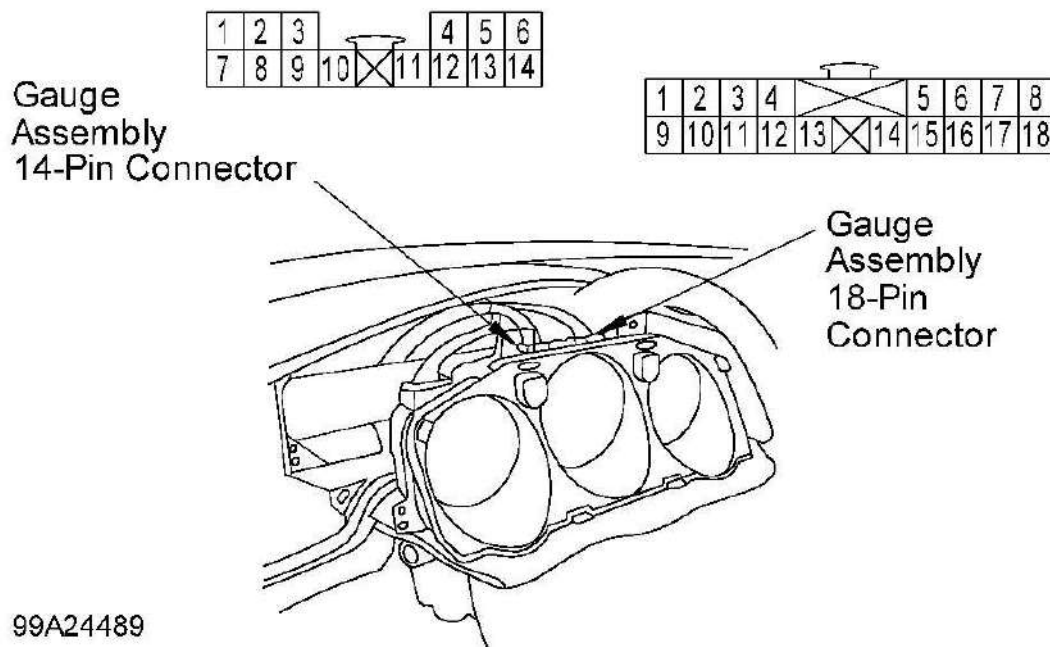
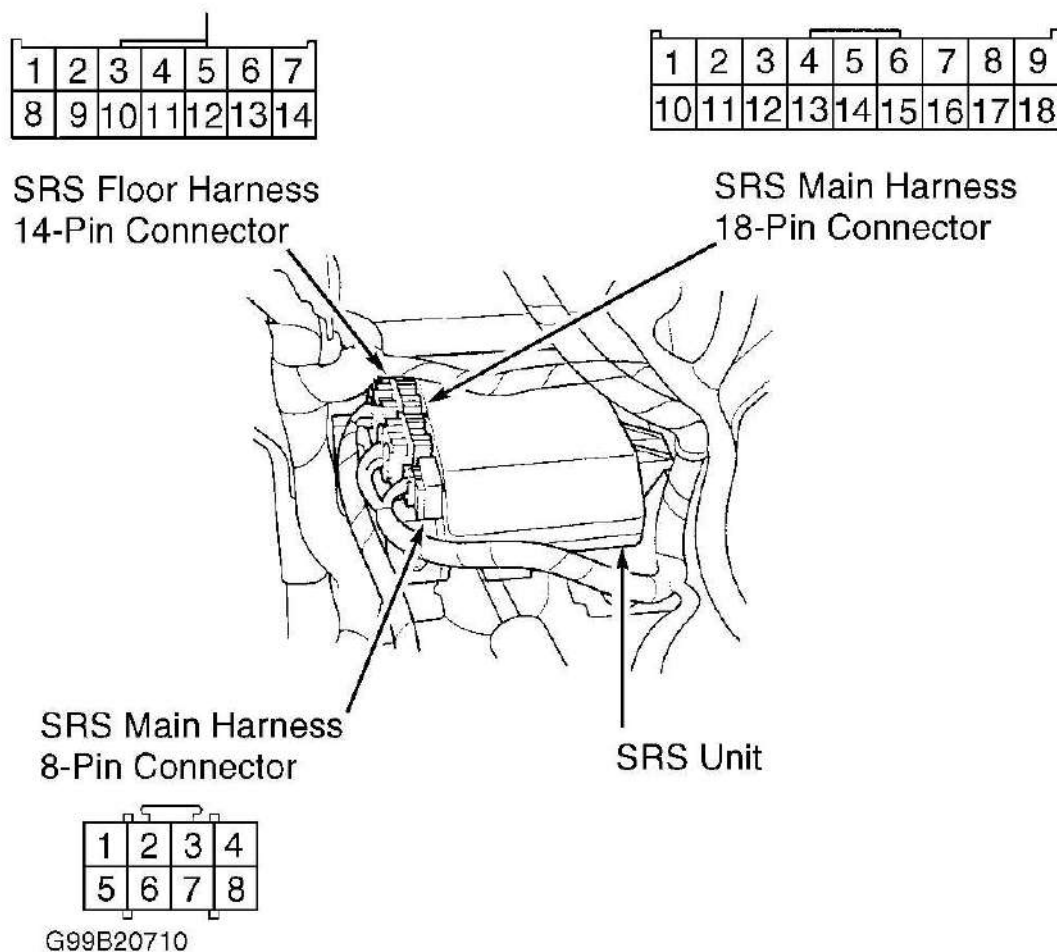
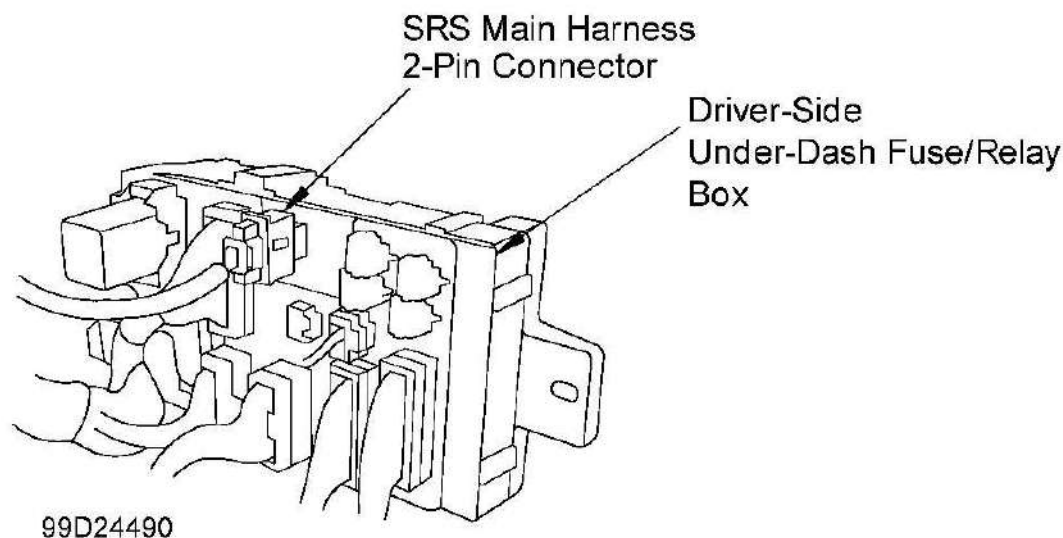
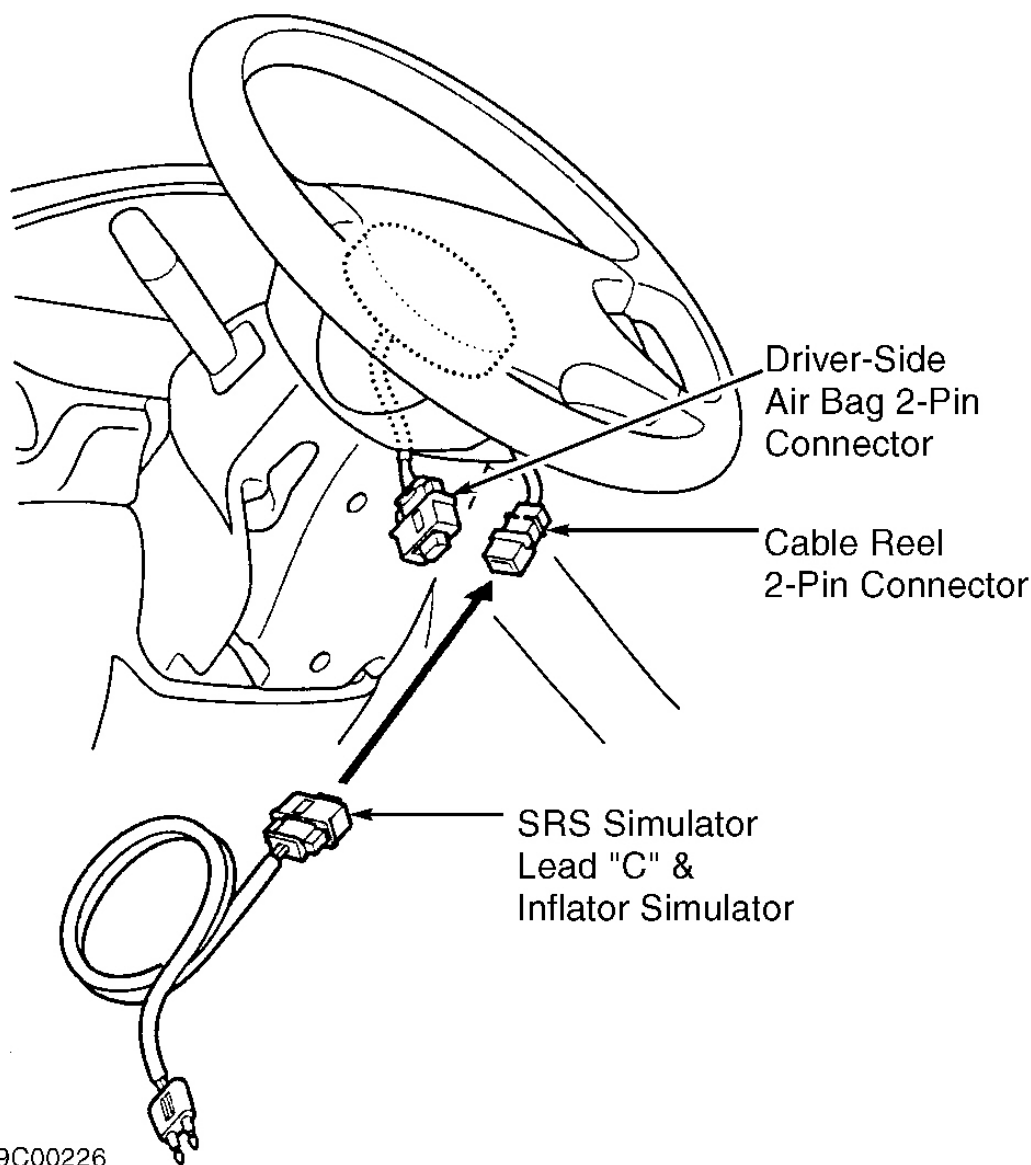

Fig. 21: Identifying Gauge Assembly Connector Terminals
Fig. 22: Identifying SRS Unit Connector Terminals
Fig. 23: Locating SRS Main Harness 2-pin Connector
Fig. 24: Connecting SRS Inflator Simulator & Lead To Cable Reel
2. Turn ignition off. Access gauge assembly and disconnect gauge assembly 14-pin connector. See **Fig. 21** . Measure resistance between ground and gauge assembly 14-pin connector terminals No. 9 and 10 (Black wire) individually. If resistance is 0-1.0 ohms, go to next step. If resistance is not 0-1.0 ohms, check for open in black wire or faulty ground terminal. See **WIRING DIAGRAMS** . If ground terminal is okay, replace appropriate wire harness.
3. Disconnect gauge assembly 18-pin connector. See **Fig. 21** . Connect voltmeter between ground and gauge
5. Turn ignition off. Check fuse No. 9 (10-amp) in under-dash fuse-relay box. If fuse is blown, go to step 7. If fuse is okay, Access gauge assembly and disconnect gauge assembly 14-pin connector. See **Fig. 21**. Connect voltmeter between ground and gauge assembly 14-pin connector terminal No. 7 (Yellow wire). Turn ignition on add observe voltmeter and go t next step.
4. Replace fuse No. 2 (10-amp) in under-dash fuse-relay box. Disconnect SRS main harness 2-pin connector from driver-side under-dash fuse-relay box. See **Fig. 23** . Turn ignition on, wait 30 seconds, then turn ignition off. Check fuse No. 2 (10-amp) in under-dash fuse-relay box. If fuse is okay, replace SRS main harness. If fuse is blown, check for short to ground in driver-side under-dash fuse-relay box fuse No. 2 line. Repair or replace fuse-relay box as necessary.
6. Turn ignition off. Disconnect SRS main harness 2-pin connector from driver-side under-dash fuse-relay box. See **Fig. 23** . Disconnect SRS unit 8-pin connector. Measure resistance of Black-White or Green wire between SRS unit 18-pin connector terminal No. 4 and SRS main harness 2-pin connector. See **Fig. 22** . See **WIRING DIAGRAMS** . If resistance is 0-1.0 ohm, check for open in Black-White or Green wire and connections. If connections are okay, replace driver-side under-dash fuse-relay box. If resistance is not 0-1.0ohm, replace SRS main harness.
8. Turn ignition off and remove jumper wire. Check fuse No. 2 (10-amp). If fuse is blown, go to next step. If fuse is okay, turn ignition off. Disconnect instrument panel wire harness 18-pin connector from gauge assembly. See **Fig. 21** . Measure resistance of Blue wire between instrument panel wire harness 18-pin connector terminal No. 17 and SRS main harness 8-pin connector terminal No. 5. See **Fig. 21** & **Fig. 22** . If resistance is less than one ohm, replace gauge assembly. If resistance is one ohm or more, replace SRS main wire harness.
2. Turn ignition off. Disconnect negative battery cable, and wait at least 3 minutes. Disconnect driver-side air bag connector from cable reel connector. See **Fig. 24** . DO NOT disconnect passenger-side air bag connector. Connect SRS Simulator Lead "C" (07TAZ-SZ5011A) and SRS Inflator Simulator (07SAZ-TB4011A) to cable reel connector. Reconnect negative battery cable. Erase DTC memory. Retrieve DTCs. If DTC 1-1 is indicated, go to next step. If DTC 1-1 is not indicated, replace driver-side air bag assembly. See **DRIVER-SIDE AIR BAG** under REMOVAL & INSTALLATION.
pin connector from SRS unit. See **Fig. 22** . DO NOT disconnect SRS simulator lead "C" and SRS inflator simulator from SRS main harness connector. Check resistance between SRS main harness 18-pin connector terminals No. 7 (Green wire) and No. 16 (Brown wire). If resistance is 2-3 ohms, go to next step. If resistance is not 2-3 ohms, replace SRS main harness.
2. Turn ignition off. Disconnect negative battery cable, and wait at least 3 minutes. Disconnect driver-side air bag connector from cable reel connector. See **Fig. 24** . Connect SRS Simulator Lead "C" (07TAZ-SZ5011A) and SRS Inflator Simulator (07SAZ-TB4011A) to cable reel connector. Reconnect negative battery cable. Erase DTC memory. Retrieve DTCs. If DTC 1-3 is indicated, go to next step. If DTC 1-3 is not indicated, replace driver-side air bag assembly. See **DRIVER-SIDE AIR BAG** under REMOVAL & INSTALLATION.
4. Disconnect negative battery cable. Wait at least 3 minutes. Disconnect passenger-side air bag 4-pin connector. See **Fig. 26** . Disconnect left and right seat belt tensioners. Disconnect SRS simulator lead "C" and SRS inflator simulator from SRS harness connector. See **Fig. 25** . Disconnect SRS main harness 18-pin connector from SRS unit. See **Fig. 22** . Check resistance between SRS main harness 18-pin connector terminals No. 7 and 16. If resistance is one megohm or more, replace SRS unit. See **SRS UNIT** under REMOVAL & INSTALLATION. If resistance is less than one megohm, replace SRS main harness.
2. Disconnect negative battery cable, and wait at least 3 minutes. Disconnect driver-side air bag connector from cable reel connector. See **Fig. 24** . DO NOT disconnect passenger-side air bag connector. Connect SRS Simulator Lead "C" (07TAZ-SZ5011A) and SRS Inflator Simulator (07SAZ-TB4011A) to cable reel connector. Reconnect negative battery cable. Erase DTC memory. Retrieve DTCs. See **DIAGNOSTIC TROUBLE CODE (DTC)** . If DTC 1-4 is indicated, go to next step. If DTC 1-4 is not indicated, replace
4. Disconnect negative battery cable. Wait at least 3 minutes. Disconnect passenger-side air bag 4-pin connector from SRS main harness connector. See **Fig. 26** . Disconnect left and right seat belt tensioners. Disconnect SRS main harness 18-pin connector from SRS unit. See **Fig. 22** . Reconnect negative battery cable. Connect a voltmeter between SRS main harness 18-pin connector terminal No. 7 and ground. Turn ignition on and measure voltage. Turn ignition off. Connect a voltmeter between SRS main harness 18-pin connector terminal No. 16 and ground. Turn ignition on and measure voltage. If voltages are 0.5 volt or less, replace SRS unit. See **SRS UNIT** under REMOVAL & INSTALLATION. If voltages are more than 0.5 volt, replace SRS main harness.
2. Disconnect negative battery cable, and wait at least 3 minutes. Disconnect driver-side air bag connector from cable reel connector. See **Fig. 24** . Connect SRS Simulator Lead "C" (07TAZ-SZ5011A) and SRS Inflator Simulator (07SAZ-TB4011A) to cable reel 2-pin connector. Reconnect negative battery cable. Erase DTC memory. Retrieve DTCs. If DTC 1-5 is indicated, go to next step. If DTC 1-5 is not indicated, replace driver-side air bag assembly. See **DRIVER-SIDE AIR BAG** under REMOVAL & INSTALLATION.
4. Disconnect negative battery cable. Wait at least 3 minutes. Disconnect passenger-side air bag 4-pin connector from SRS main harness connector. See **Fig. 26** . Disconnect left and right seat belt tensioners. Disconnect SRS main harness 18-pin connector from SRS unit. See **Fig. 22** . Check resistance between SRS main harness 18-pin connector terminal No. 7 and ground, and between SRS main harness 18-pin connector terminal No. 16 and ground. If resistance is less than one megohm, replace SRS main harness. If resistance is one megohm or more, replace SRS unit. See **SRS UNIT** under REMOVAL & INSTALLATION.
3. Disconnect negative battery cable. Wait at least 3 minutes. Disconnect driver-side air bag connector from cable reel connector. See **Fig. 24** . Disconnect left and right seat belt tensioners. Disconnect SRS main harness 18-pin connector from SRS unit. See **Fig. 22** . Measure resistance between SRS main harness 18-pin connector terminals No. 5 and 14 and terminals No. 6 and 15. If resistance is 2-3 ohms, check for poor contact at SRS main harness 18-pin connector. If connector is okay, replace SRS unit. See **SRS UNIT** under REMOVAL & INSTALLATION. If resistance is not 2-3 ohms, replace SRS main harness.
3. Disconnect negative battery cable. Wait at least 3 minutes. Disconnect SRS simulator lead "E" and SRS inflator simulator from SRS main harness connector. Disconnect driver-side air bag connector from cable reel connector. See **Fig. 24** . Disconnect left and right seat belt tensioners. Disconnect SRS main harness 18-pin connector from SRS unit. See **Fig. 22** . Measure resistance between SRS main harness 18-pin connector terminals No. 5 and 14 and terminals No. 6 and 15. If resistance is one megohm or more, replace SRS unit. See **SRS UNIT** under REMOVAL & INSTALLATION. If resistance is less than one megohm, replace SRS main harness.
3. Disconnect negative battery cable. Wait at least 3 minutes. Disconnect driver-side air bag connector from cable reel connector. See **Fig. 24** . Disconnect left and right seat belt tensioners. Disconnect SRS main harness 18-pin connector from SRS unit. See **Fig. 22** . Reconnect negative battery cable. Turn ignition on. Measure voltage between ground and SRS main harness 18-pin connector terminals No. 5, 6, 14, and 15. If voltages are more than 0.5 volt, replace SRS main harness. If voltages are 0.5 volt or less, replace SRS unit. See **SRS UNIT** under REMOVAL & INSTALLATION.
3. Disconnect negative battery cable. Wait at least 3 minutes. Disconnect driver-side air bag connector from cable reel connector. See **Fig. 24** . Disconnect left and right seat belt tensioners. Disconnect SRS main harness 18-pin connector from SRS unit. See **Fig. 22** . Measure voltage between ground and SRS main harness 18-pin connector terminals No. 5, 6, 14, and 15. If resistances are less than one megohm, replace SRS main harness. If resistances are one megohm or more, replace SRS unit. See **SRS UNIT** under REMOVAL & INSTALLATION.
4. Disable driver and passenger-side air bags, driver and passenger side-impact air bags and passenger-side seat belt tensioner. See **DISABLING & ACTIVATING AIR BAG SYSTEM** . Disconnect SRS main harness 18-pin connector from SRS unit. See **Fig. 22** . DO NOT disconnect SRS simulator lead "D" and SRS inflator simulator from SRS main harness 4-pin connector. Measure resistance between SRS main harness 18-pin connector terminals No. 8 and 17. If resistance is not 2-3 ohms, replace SRS main harness. If resistance is 2-3 ohms, check for poor contact at SRS main harness 18-pin connector. If connector is okay, replace SRS unit. See **SRS UNIT** under REMOVAL & INSTALLATION.
4. Disable driver and passenger-side air bags, driver and passenger side-impact air bags and passenger-side seat belt tensioner. See **DISABLING & ACTIVATING AIR BAG SYSTEM** . Disconnect SRS main harness 18-pin connector from SRS unit. See **Fig. 22** . Disconnect SRS simulator lead "D" and SRS
4. Disable driver and passenger-side air bags, driver and passenger side-impact air bags and passenger-side seat belt tensioner. See **DISABLING & ACTIVATING AIR BAG SYSTEM** . Disconnect SRS main harness 18-pin connector from SRS unit. See **Fig. 22** . Reconnect negative battery cable. Measure voltage between ground and SRS main harness 18-pin connector terminals No. 8 and 17. If voltage is 0.5 volt or less, replace SRS unit. See **SRS UNIT** under REMOVAL & INSTALLATION. If voltage is 0.5 volt or greater, replace SRS main harness.